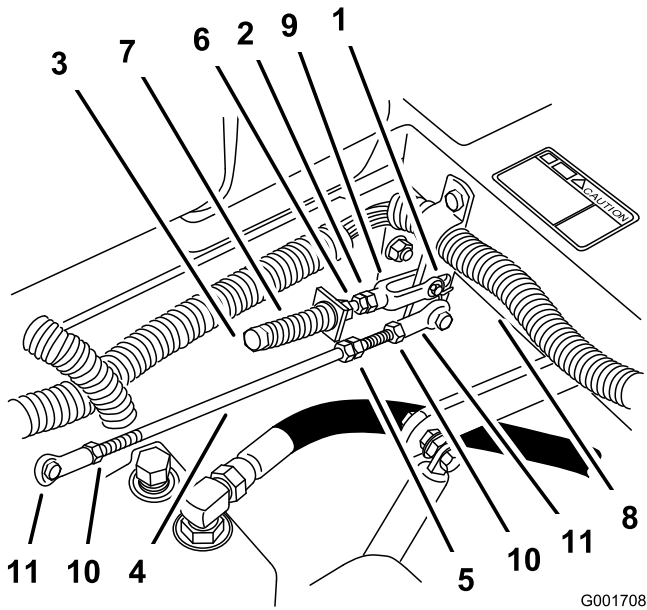

Figure 62
8. If adjustment is needed, loosen the nut and jam nut against the yoke (Figure 62).
- Apply slight rearward pressure on the motion control lever, turn the head of the adjustment bolt in the appropriate direction until the control lever is centered in the neutral lock position (Figure 62).
- Tighten the nut and jam nut (Figure 62).